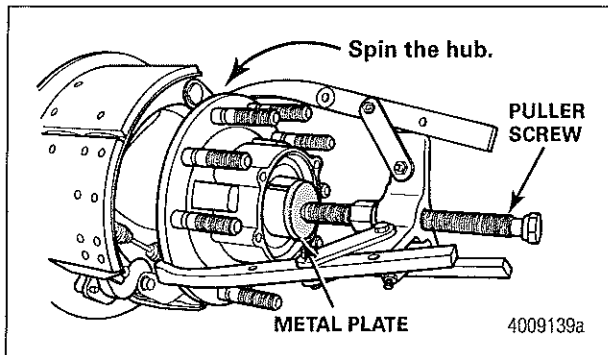

Figure 7
10. Either loosen the hub from the spindle by hand or use a puller to remove the hub from the axle spindle as follows. Figure 7.